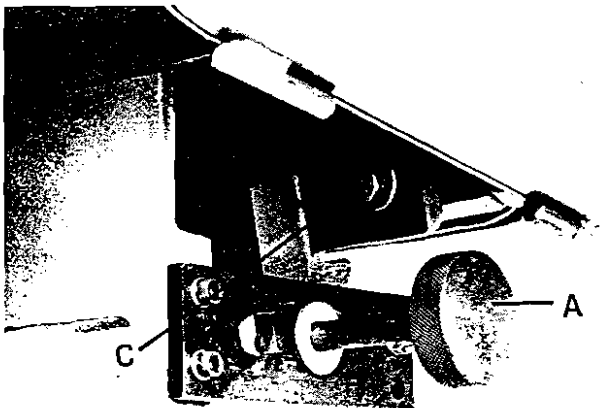
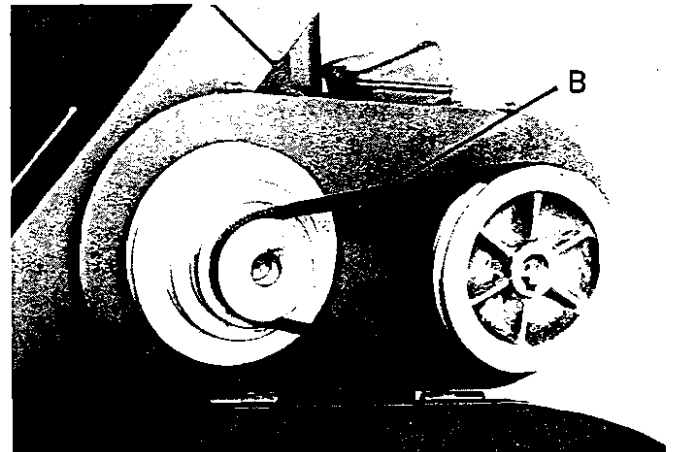

FIG.7
FIG.8
2. Shift the belt (B) Fig.8, to the desired grooves on the pulleys and adjust belt tension by pulling the motor plate (C) Fig.7 back until correct belt tension is obtained and tighten tension lock knob (A) Fig.7
1. Release tension on the belt by turning the tension lock knob (A) Fig.7, counterclockwise and letting the motor swing forward.